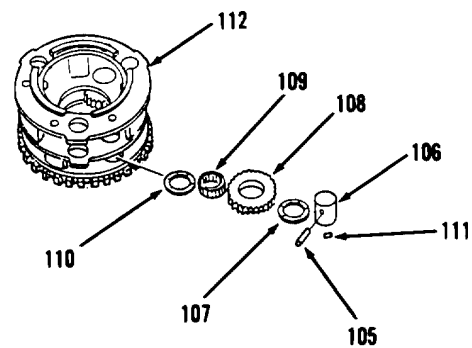

Figure 14-69.
53. Remove three plugs (104), if necessary, and pins (97) from shafts (98).
54. Using punch and hammer, drive three pins (105) into shafts (106, Figure 14-69).
55. Remove three shafts (106), discs (107), gears (108), rollers (109) and discs (110) from carrier (112).